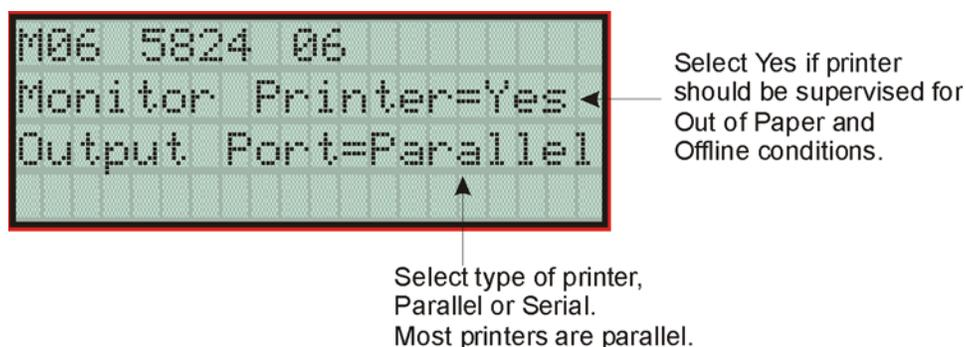

Figure 4-16 Selecting Printer and Output Port Options
5. Press **ENTER** to bypass the next two screens. A screen similar to the one shown in Figure 4-16 will display.